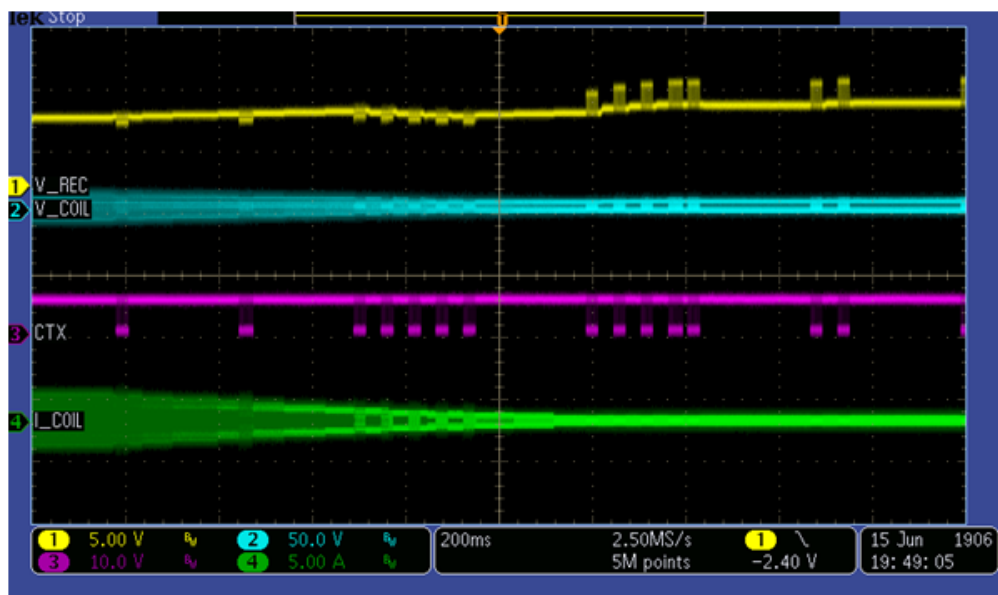

Figure 28. System response for reducing the load gradually to 0 A
4. System response measurement for reducing the load gradually to 0 A is shown in Figure 28.